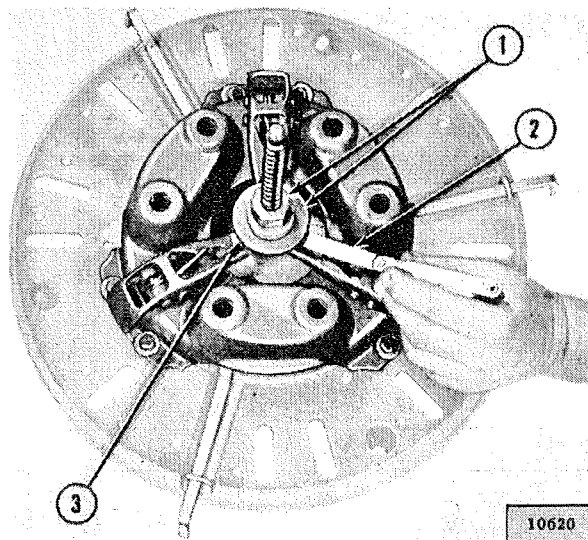

FIG. 102—ADJUSTING CLUTCH LEVERS
- h. Adjust the three lever adjusting screws until a 0.002" [0,051 mm.] feeler blade has a slight drag between the compression plate and each adjusting screw. See Fig. 102.